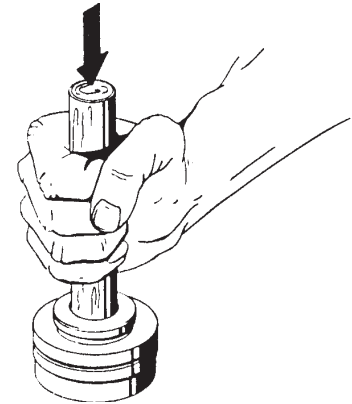

Figure 4-2
- If the seal seat (#12.5) must be reused, use a wooden dowel sized to fit through the hole in the seal cup to tap it out. (refer to figure 4-2)